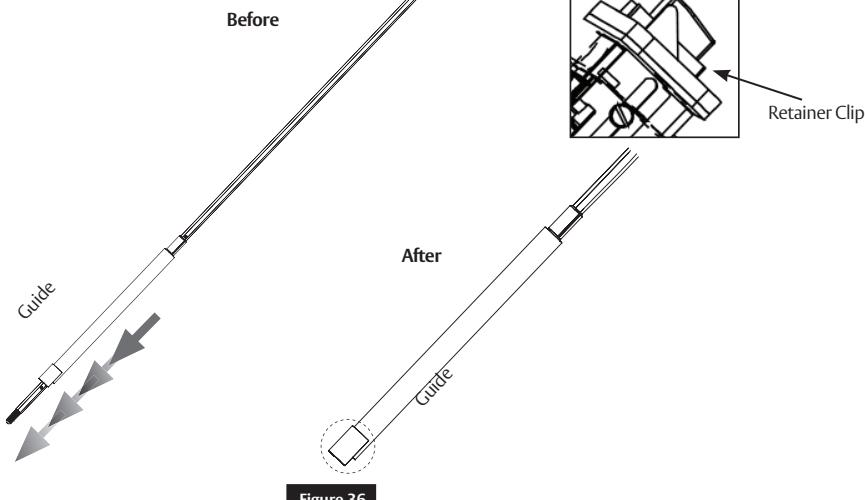

Figure 36
- Pull rod guides away from latches on both rods until they stop. (Figure 36)